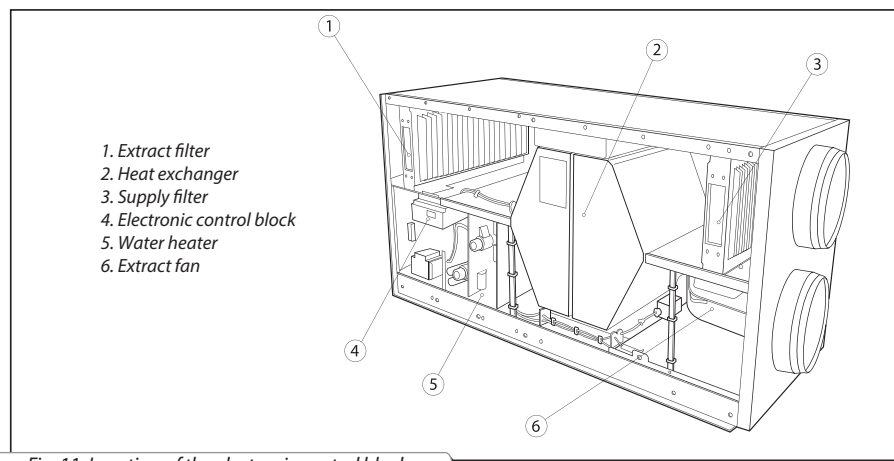

Fig. 11. Location of the electronic control block
The unit is equipped with a built-in electronic control and automatic block (refer item 4 on fig. 11) and the remote control panel (fig. 14).
The air handling unit is equipped with an electronic control block, fig. 11, 12.